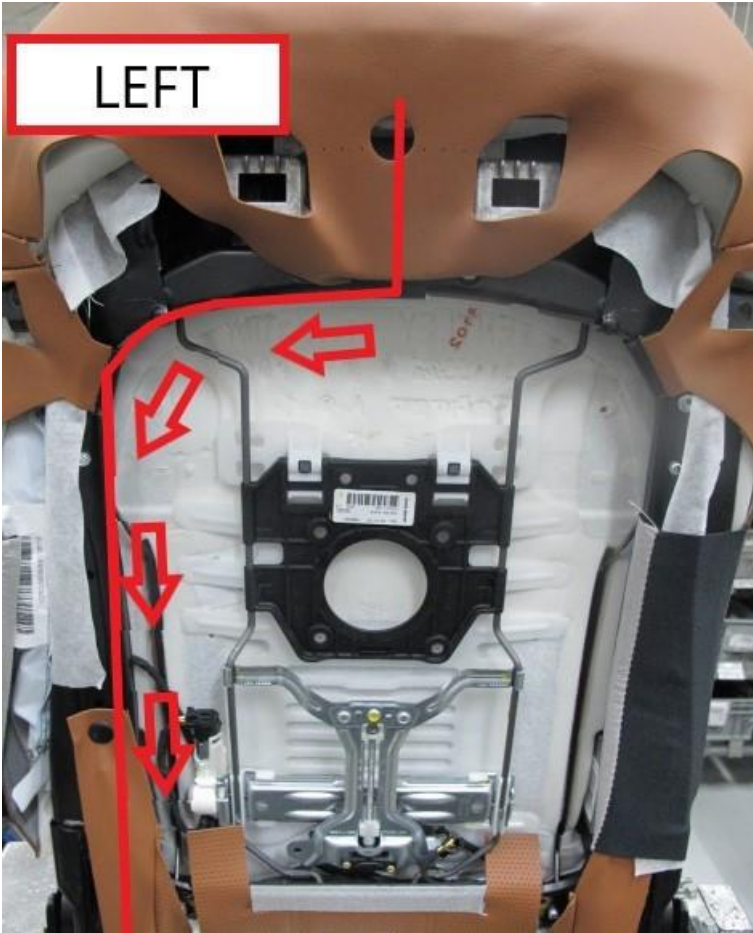

Figure 3
- **Figure 3 - Shows the advised harness route for the left hand front seat**